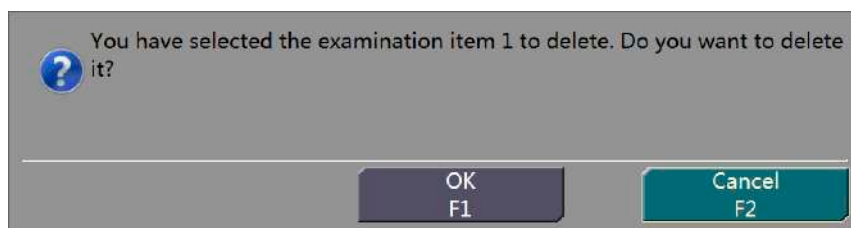

Figure 16-9 Prompt for Deleting an Examination Item
Step 2 If the examination item is not being executed, a dialog box is displayed, as shown in the figure. Click “OK” or Cancel as required, as shown in Figure 16-9.